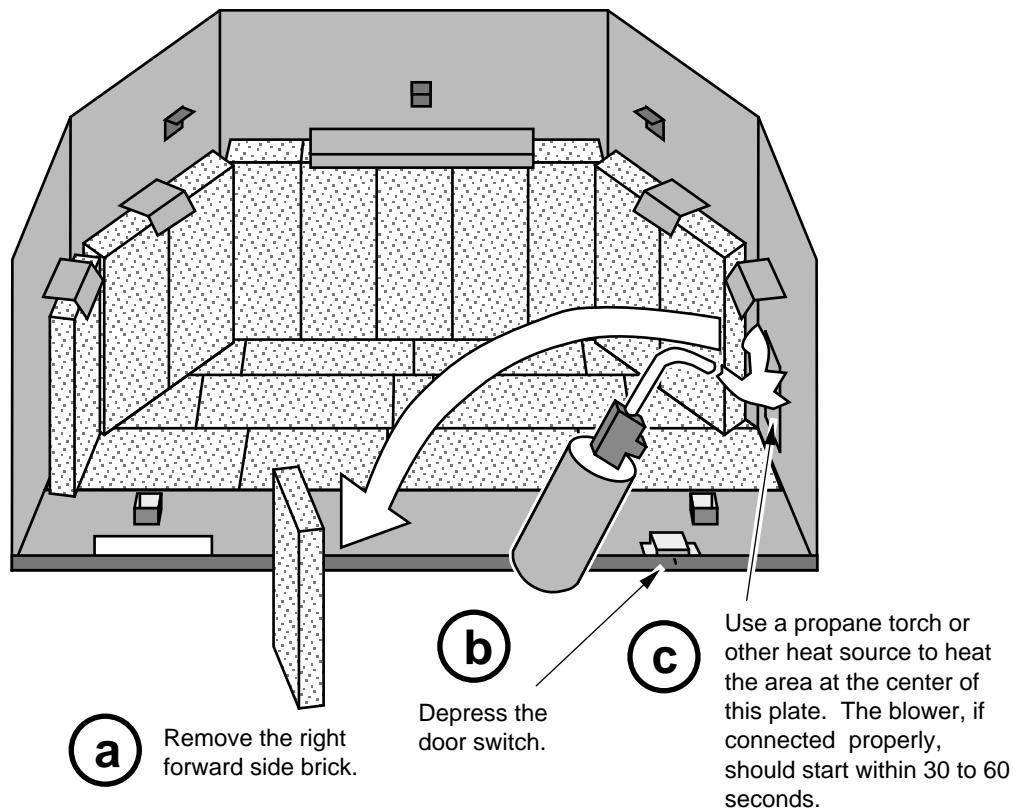

Figure 35
- Test the blower circuit by following the directions in Figure 35.